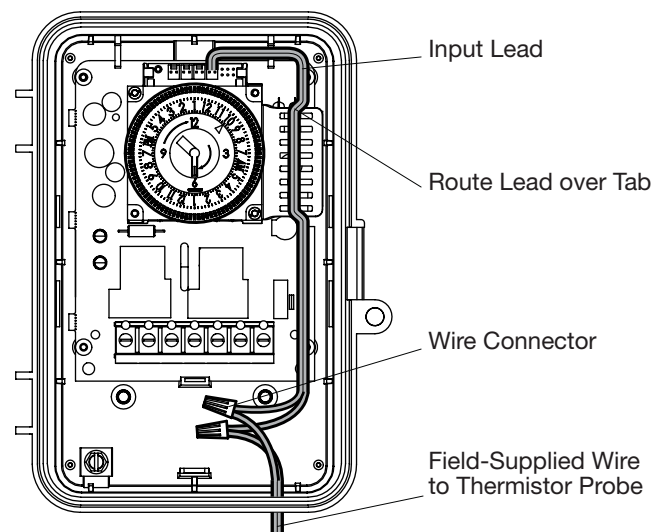

FIG. 7 Route the Input Lead
3. Route the input lead above the tab and around the ICUBE™ module as shown in FIG. 7.
- For enclosure installations, cut the input lead length to ensure the connection is inside the enclosure as shown in FIG. 7.